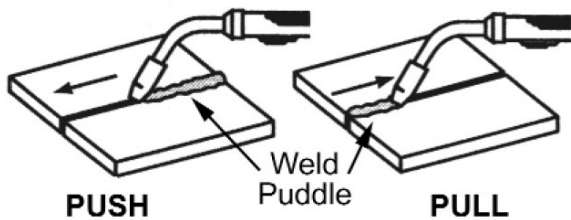

Figure 12. Travel Direction
1. **TRAVEL DIRECTION** is the direction the gun is moved along the weld joint in relation to the weld puddle. The gun is either **PUSHED** (see Figure 12) into the weld puddle or **PULLED** away from the weld puddle